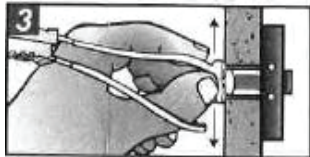

Figure 4.3.2
4.3.2 With one hand, pull rign so metal channel rests flush behind the cab shell. Slide plastic cap with other hand until flange of cap is flush with wall panel as shown in Figure 4.3.2.